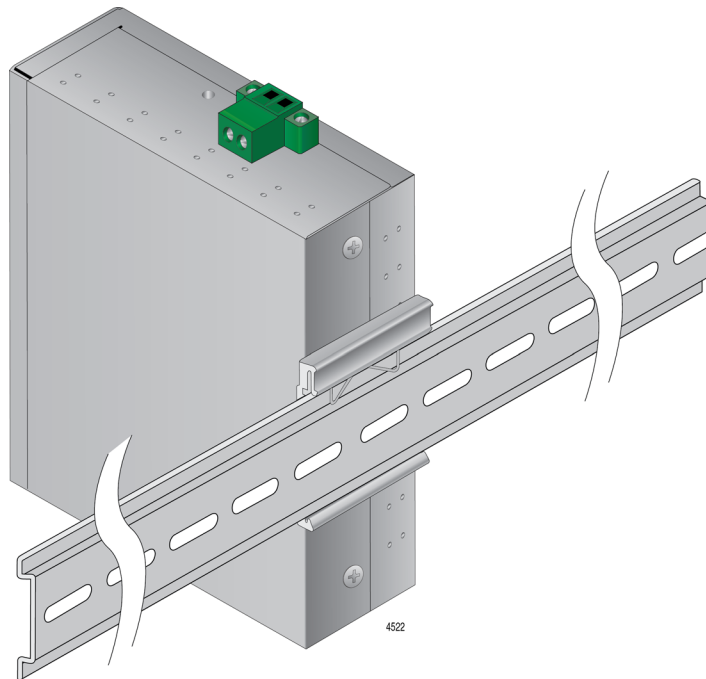

Figure 13. Securing the Media Converter to a DIN Rail
3. Ensure that the media converter unit is attached securely to the DIN rail. See Figure 13.